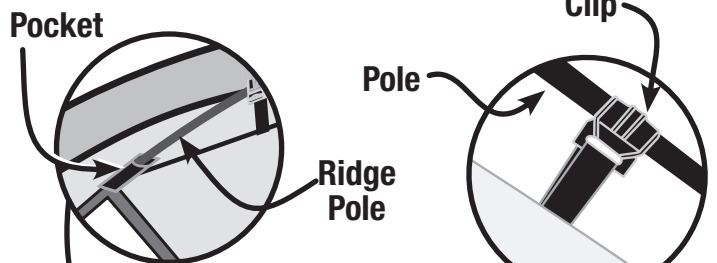

Fig. 6
- Verify the clips along the edges of the tent are properly attached to the frame poles. (Fig. 6)